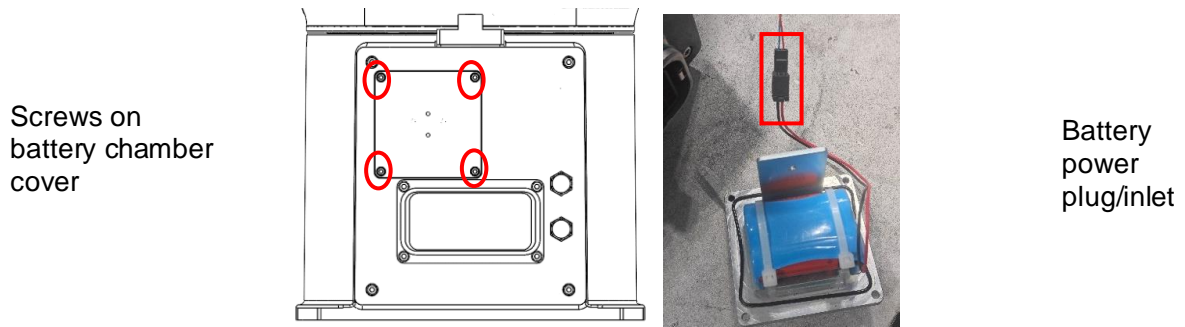

Fig. 6.2 Screws on Encoder Battery Chamber of New Version Mechanical Body
- 1) Remove the screws on the battery chamber cover as shown in Fig. 6.2 and pull the encoder out of the battery chamber cover;
- 3) Pull out the battery power plug as shown in Fig. 6.2 and remove the old battery;
- 4) Insert the power plug of the new battery into the battery power inlet as shown in Fig. 6.2;
- 6) Restore the battery chamber cover and tighten the screws on the battery chamber cover as shown in Fig. 6.2;